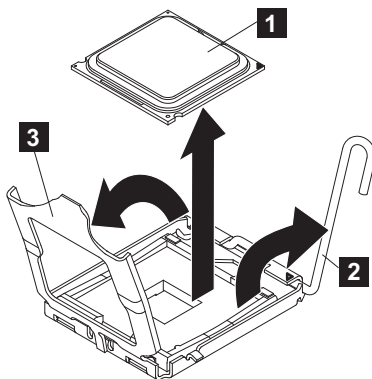

Figure 296. Opening the SAN Volume Controller 2145-CG8 or 2145-CF8 microprocessor-bracket frame
11. Release the microprocessor-release lever (**2** in Figure 296), by pressing down on the curved end of the lever, moving that end away from the middle of the processor, and releasing the lever up to the open position.
12. Open the microprocessor-bracket frame by lifting the tab that is on the top edge. Keep the bracket frame in the open position, as shown in Figure 296.